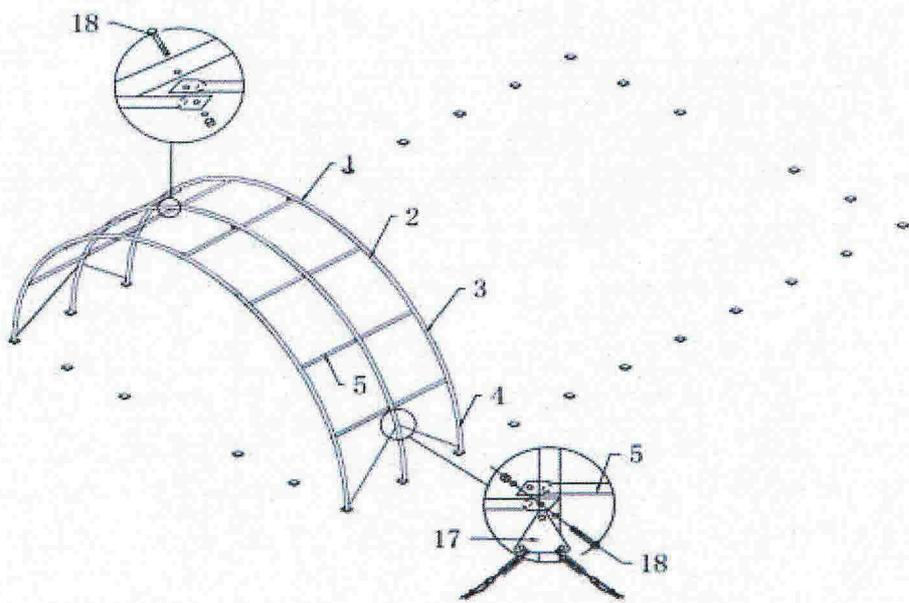

Figure 5
3. As figure 5 shown when finish installing the first two arches into the base plate using purlin (No.5) to connect them by carriage bolt M12x100mm (No.18). By this turn, assemble other arches and fix on the base plate then connect them with purlins.